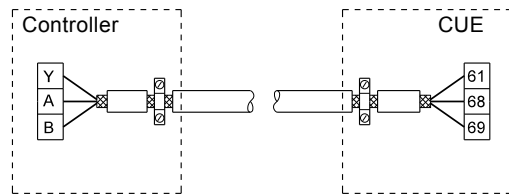
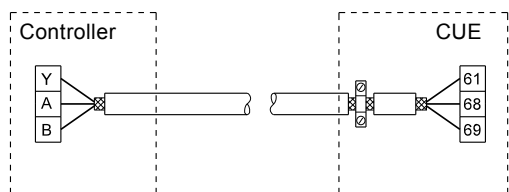

Fig. 40 Example of connection of a 3-conductor bus cable with screen connected at both ends
Fig. 41 Example of connection of a 3-conductor bus cable with screen connected at the CUE (controller with no cable clamps)
- Connect the screen to frame at both ends for both motor and signal cables. See fig. 40. If the controller has no cable clamps, connect only the screen to the CUE. See fig. 41.